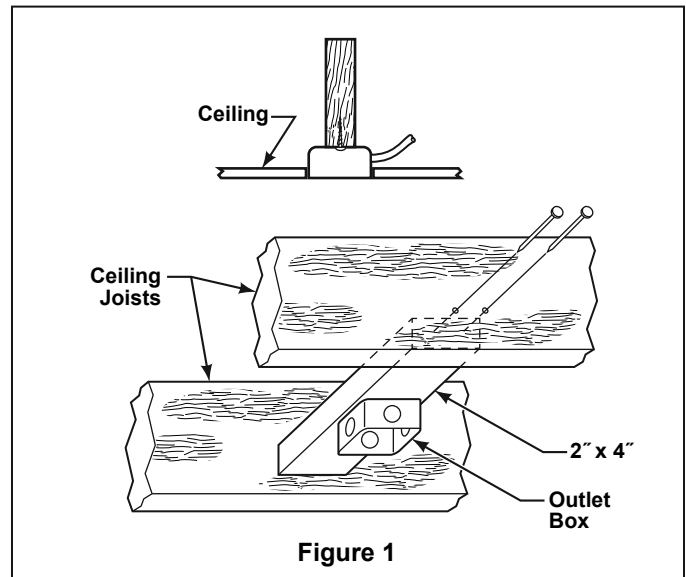

Figure 1
NOTE: If you are uncertain of part description, refer to exploded view illustration. (Figure 1, page 13)
Your new ceiling fan will require a grounded electrical supply line of 120 volts AC, 60 Hz, 15 amp circuit. The outlet box must be securely anchored and capable of withstanding a load of at least 50 lbs. **Figure 1** depicts different structural configurations that may be used for mounting the outlet box.
1. Remove the Hanger Ball by loosening the setscrew in the Hanger Ball until the ball falls freely down the Downrod. (Figure 1) Remove the Pin from the Downrod, then remove the Hanger Ball. Retain the Pin and Hanger Ball for reinstallation in Step 4 (Figure 4).